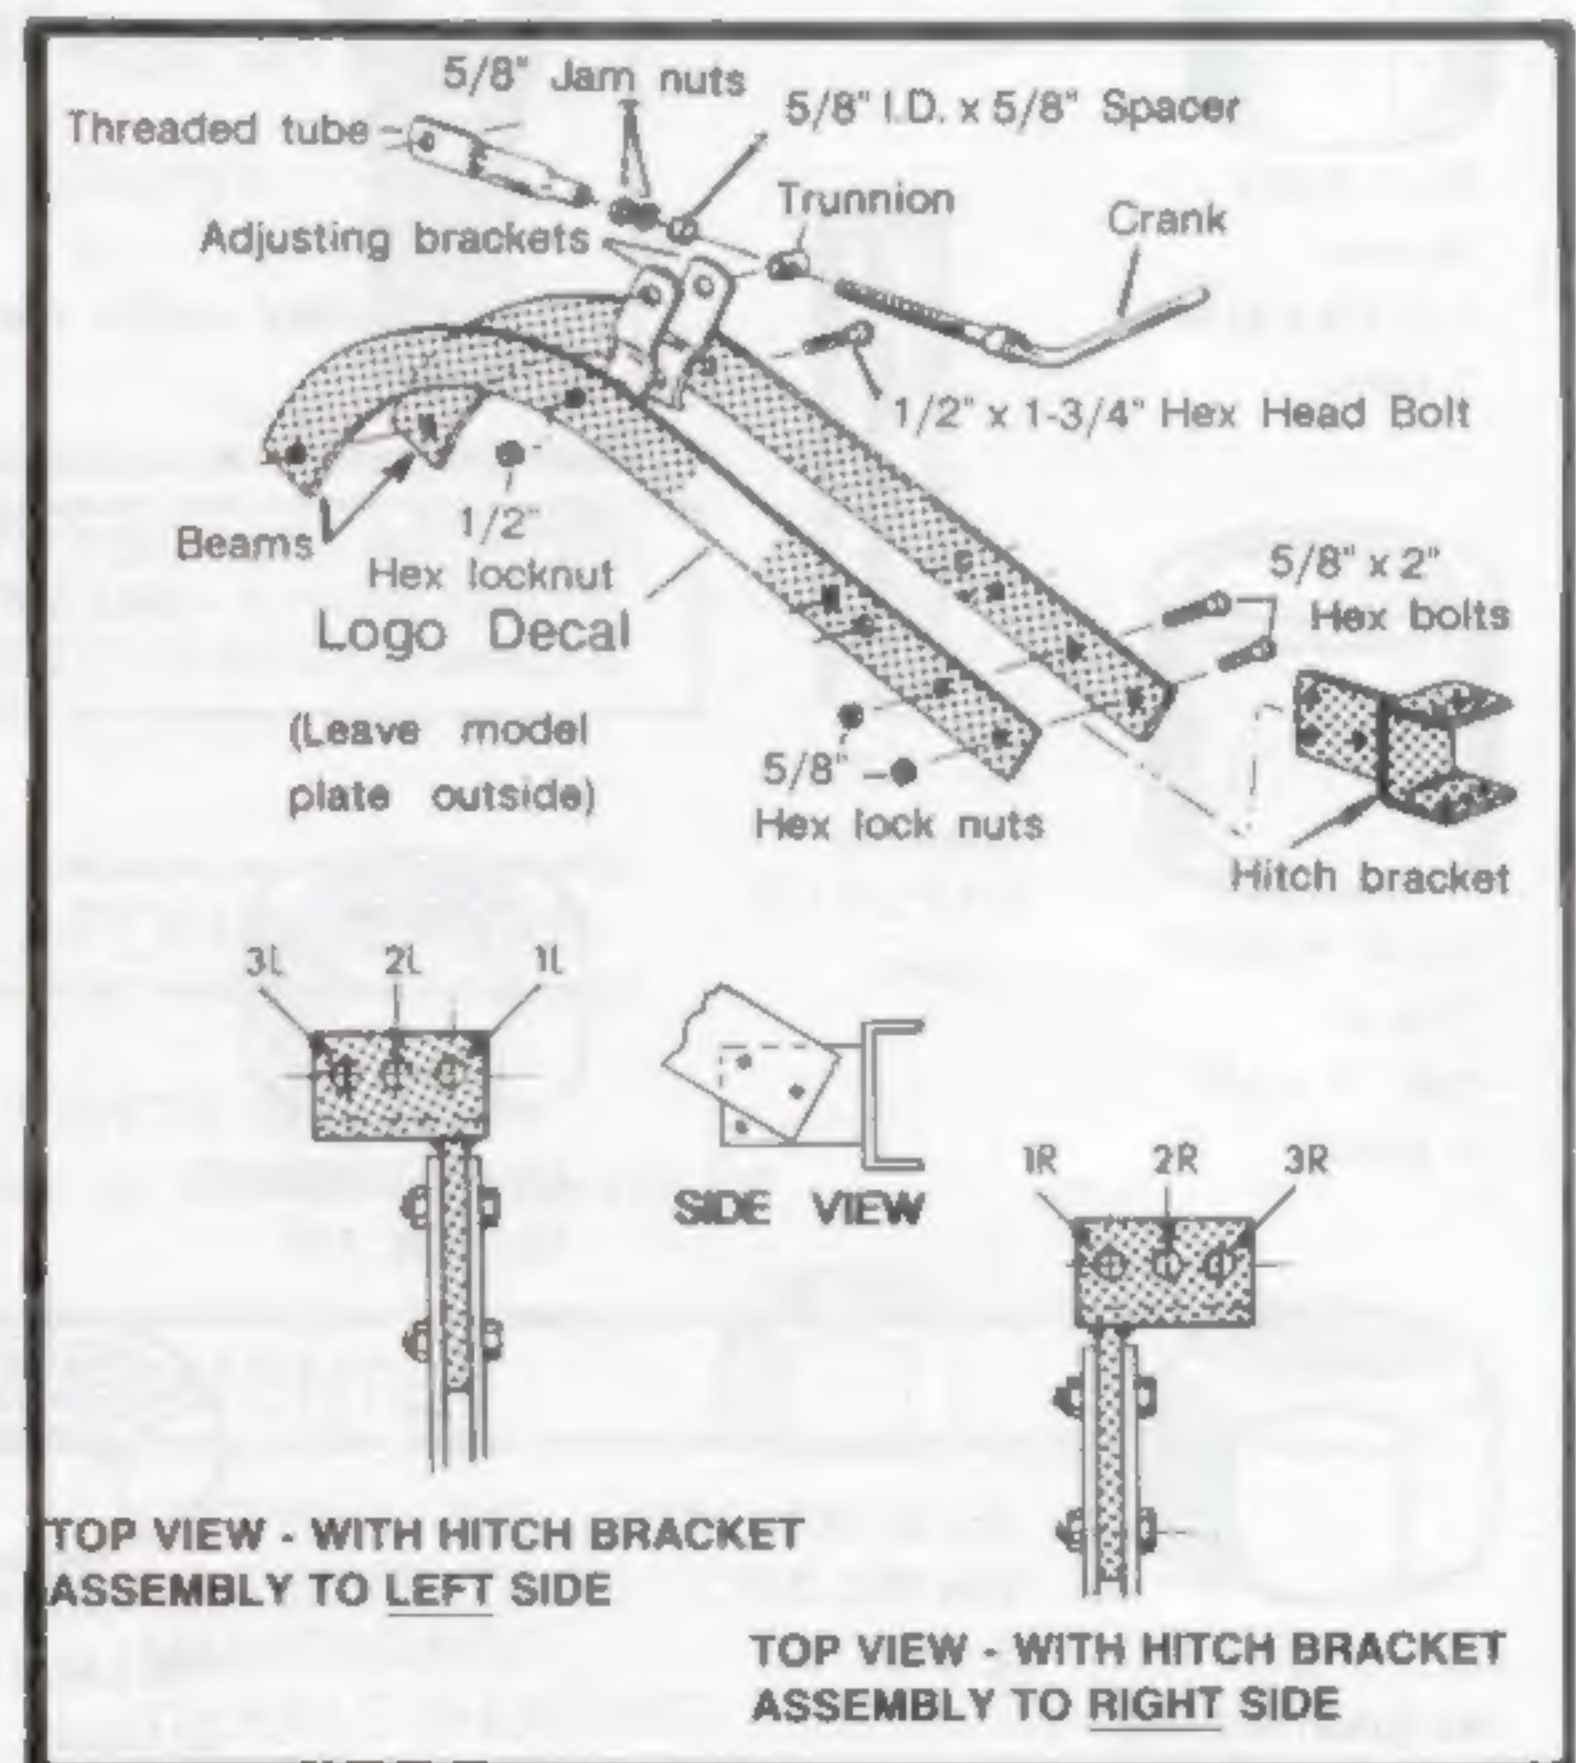

FIG. 1
Refer to Fig. 1
- Mount the Plow to the Sleeve Hitch with the Hitch Pin furnished with the Hitch. Refer to Figure 1 and Table 1 to select the proper mounting hole.
- When plowing heavy clay soil or sod, it will help to reduce the width of the plow cut. This can be accomplished by hitching the plow one or two holes to the LEFT of the recommended setting, (Refer to Fig.1).